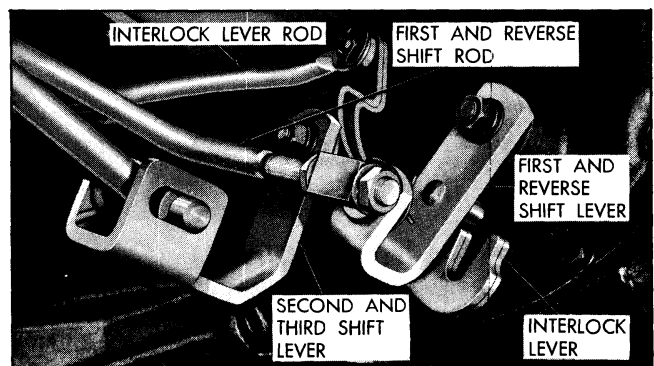

Fig. 7A-22 Proper Assembly of Shift Rods to Shift Levers
7. Connect interlock lever rod to lever (Fig. 7A-22).